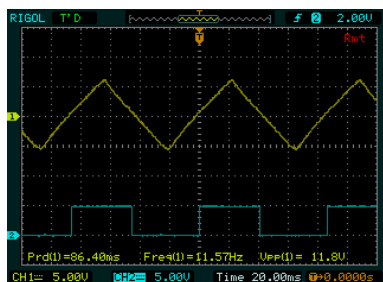

Figure 18.  $\geq 10\text{Hz}$  Triangle
19. Set the oscilloscope trigger mode to auto trigger, time base to 20mSEC/DIV, and rotate the FINE FREQUENCY to the x1 position. Verify each of the waveforms and frequencies as shown in Figures 18, 19, and 20.